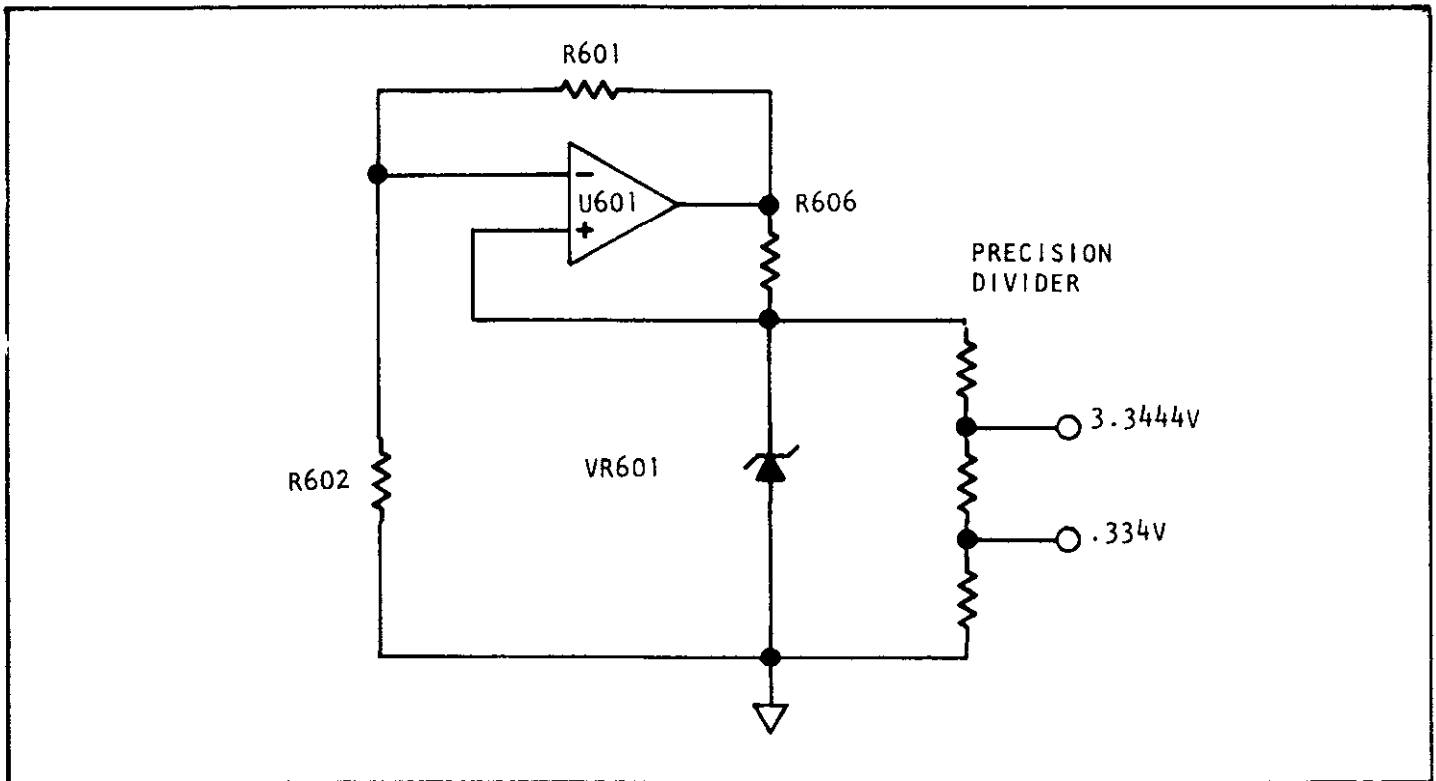

FIGURE 5-16. Simplified Schematic of Reference Supply.
g. Reference Supply. Although not actually a part of the A/D converter circuitry, the reference supply (shown in Figure 5-16) furnishes the stable known voltages required to auto calibrate the A/D converter. These voltages are also used in the ohms converter circuitry. The heart of the reference supply is a stable, low temperature coefficient zener diode. It is driven from a constant current (nominally 7.5mA) developed by amplifier U601. With the zener current well regulated, it is immune to power supply variations. The output divider resistors are part of a precision resistor network which provides very stable reference voltages. R606 and the input resistors of the divider are specially selected (depending on the zener voltage) to provide a nominal 200 $\mu$ A of current to the divider. The zener voltage is between 6.15 and 6.5 volts, with the resistors matched accordingly.